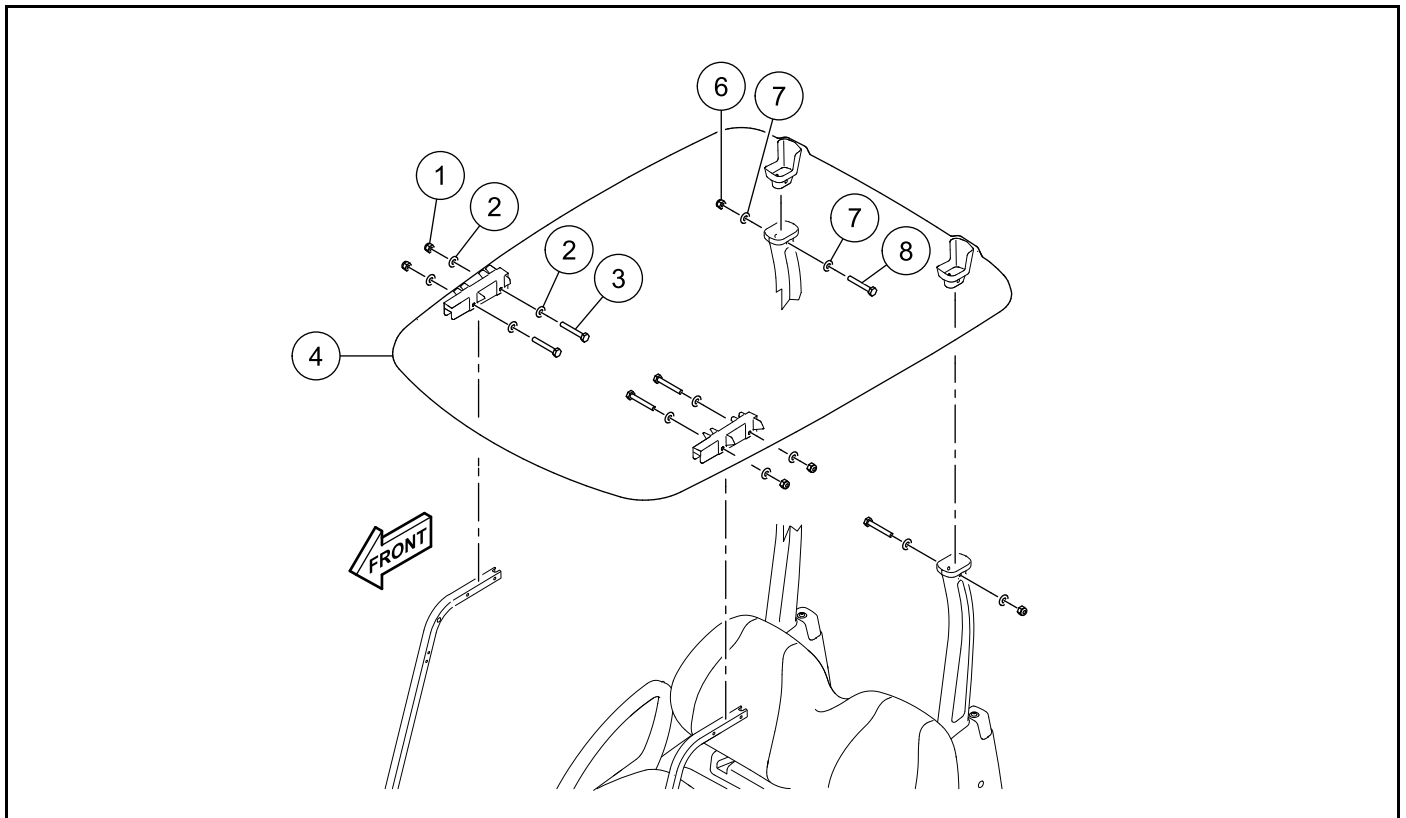

Figure 4-16 Two-Passenger Canopy Removal
1. Remove the nuts (1), washer (2), and bolts (3) from the canopy (4) and each front canopy strut (**Figure 4-16**).
2. Remove the nuts (6), washer (7), and bolts (8) from the canopy and each rear canopy support.